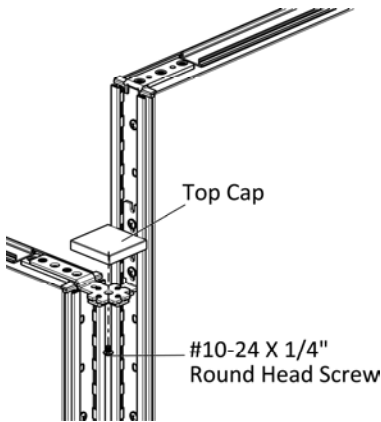

Figure 5
- 7. Securely fasten top cap with #10-24 X 1/4" Round Head Screw, (Figure 5).